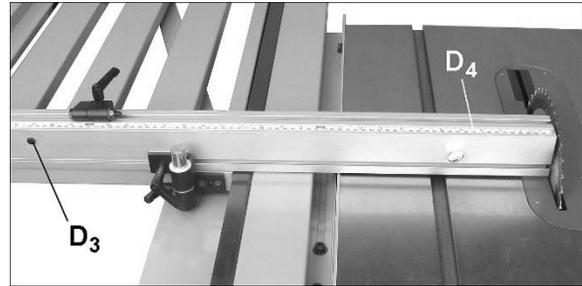

Figure 8-11
1. Loosen screw (D3, Figure 8-11) and move fence scale (D4) flush with right end of fence. Tighten screw (D3).
With fence at rear position, loosen screw (D3, Figure 8-11). Remove scale, rotate it 180° and slide it back into fence. Number sequence now begins properly from blade area.